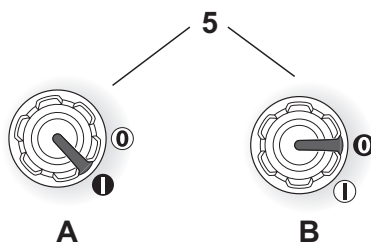

Fig. 20
- > Set the on/off switch (3) in its "1" position to start the product (Fig. 20, A).
- > Set the on/off switch (3) in its "0" position to switch off the product (Fig. 20, B).